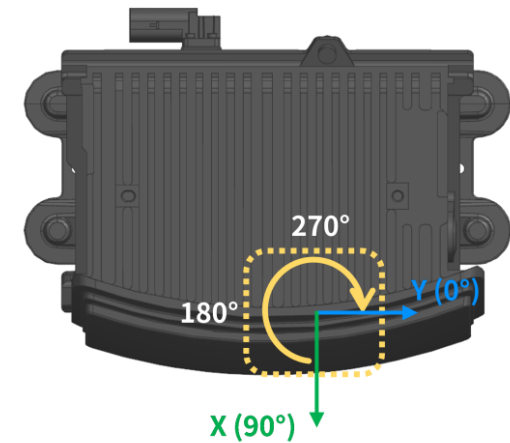

Figure 3. Mirror rotation direction (top view)
A rotating mirror is used for horizontal scanning, shown as the dotted box in Figure 3.
The lidar's azimuthal position (i.e., azimuth of the current firing channel) is defined in Figure 3.
| ① FOV and ROI | Horizontally symmetric with respect to the 90° azimuthal position (i.e. the X-axis, as shown in Figure 3) |